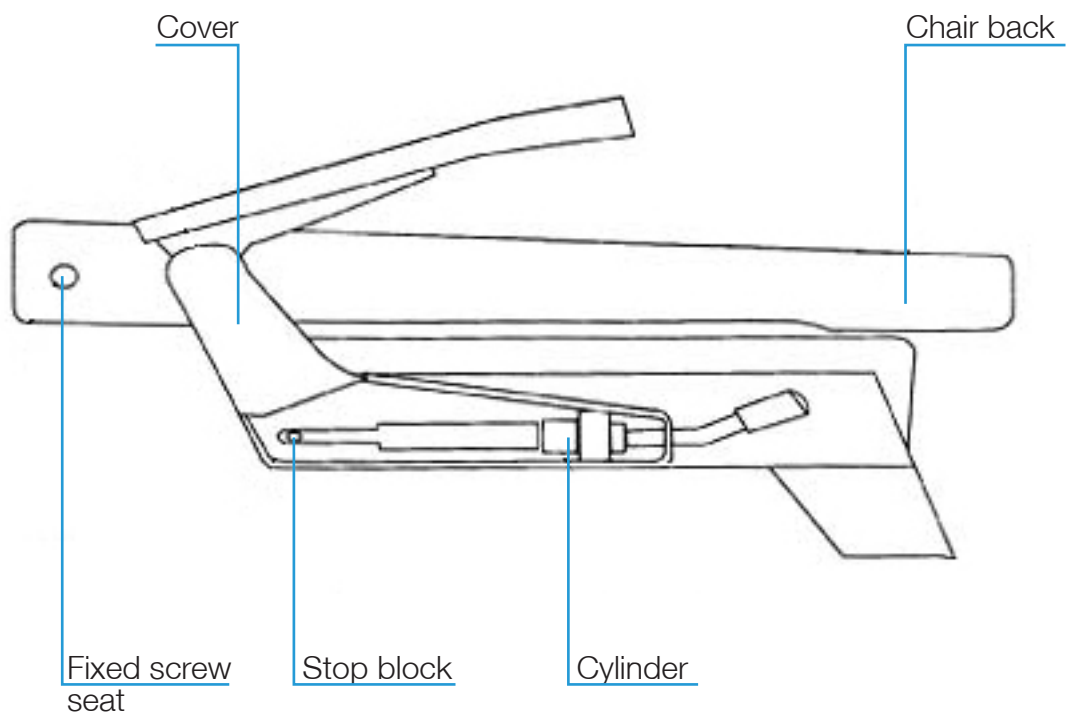

Fig 1
1. Installation of chair back (Fig 1)